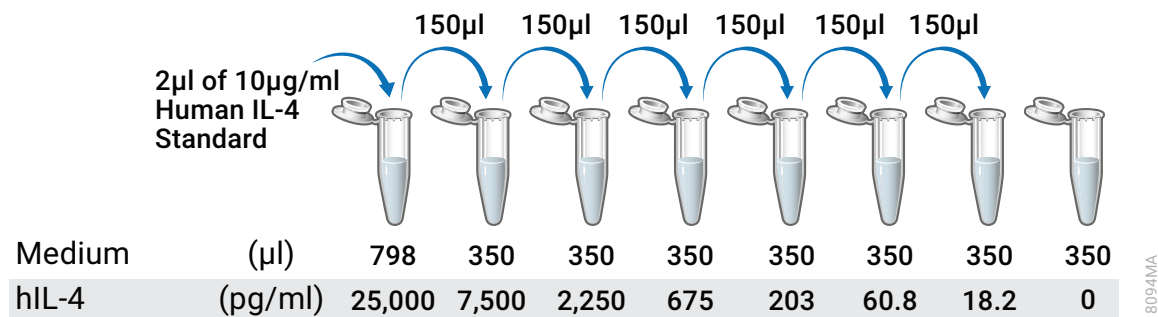

Figure 3. Human IL-4 dilution series.
3. Prepare an initial concentration of 25,000pg/ml human IL-4 by diluting Human IL-4 Standard (10µg/ml) 1:400 in pre-warmed cell culture medium. For example, prepare 800µl of 25,000pg/ml human IL-4 by adding 2µl of the Human IL-4 Standard stock to 798µl of culture medium (see Figure 3).
3. Prepare an initial concentration of 25,000pg/ml human IL-4 by diluting Human IL-4 Standard (10µg/ml) 1:400 in prewarmed cell culture medium. For example, prepare 800µl of 25,000pg/ml human IL-4 by adding 2µl of Human IL-4 Standard stock to 798µl of culture medium (Figure 3).